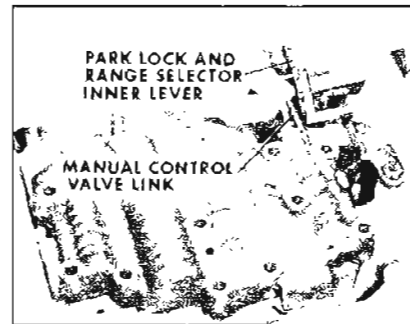

Figure 5-343
4. Install manual control valve link into park, lock and range selector inner lever. See Figure 5-343.